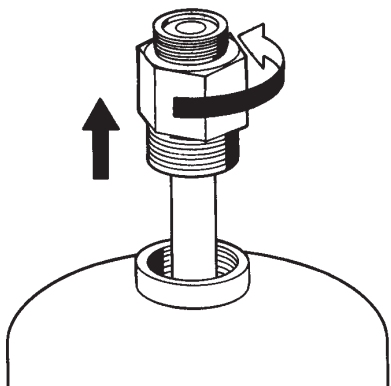

FIGURE 2
10. Remove tank adaptor/tube assembly from each tank. See Figure 2.